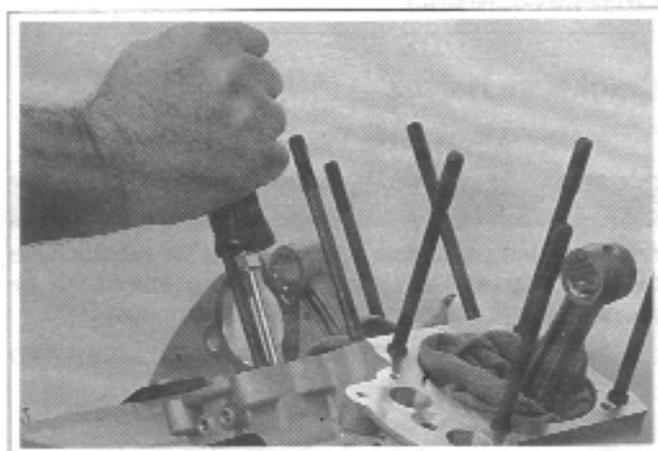

Figure 3-132. Checking Cam Gear End Play
6. See Figure 3-132. Check cam gear end play for each cam gear as follows: